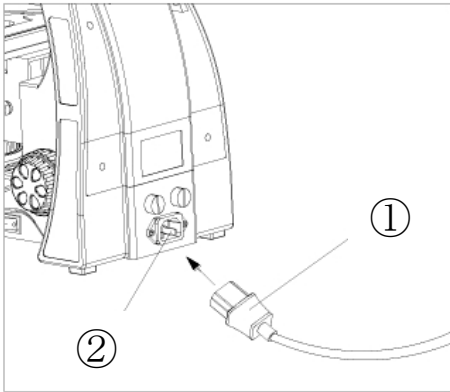

Fig. 3
Insert the connector ① of power cord securely into the power socket ②, (see Fig. 3).